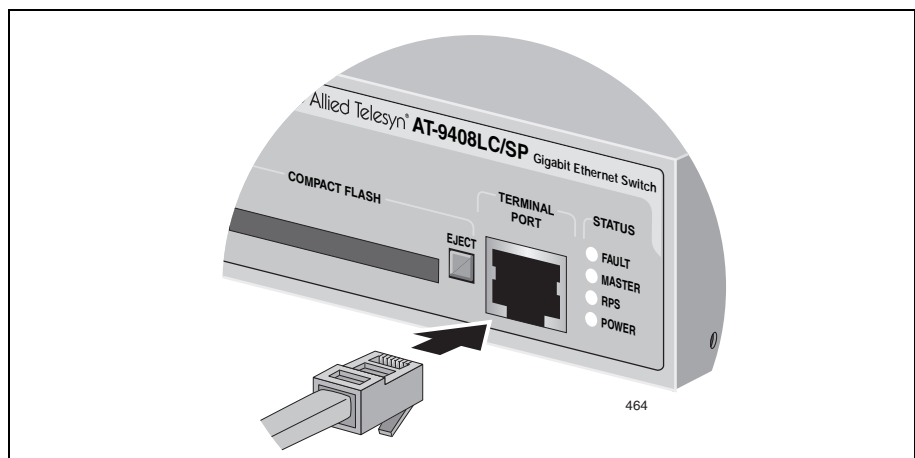

Figure 19. Connecting the Management Cable to the RJ-45 Terminal Port on the Switch
1. Connect the RJ-45 end of the management cable included with the AT-9400 Switch to the Terminal Port on the front panel of the switch, as shown in Figure 19.